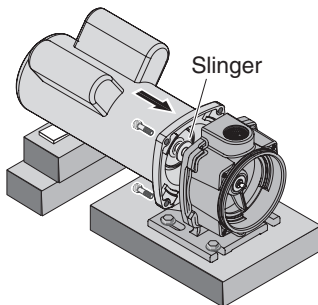

Figure 23
1. Bolt the bracket down to the foundation (see Figure 23).
2. Slide the motor shaft through the seal and bolt up the motor (see Figure 23). Make sure that the slinger is on the shaft between the bracket and the motor flange. Make sure that you don’t chip the seal face with the shaft shoulders and that the shaft does not take the weight of the motor at any time.